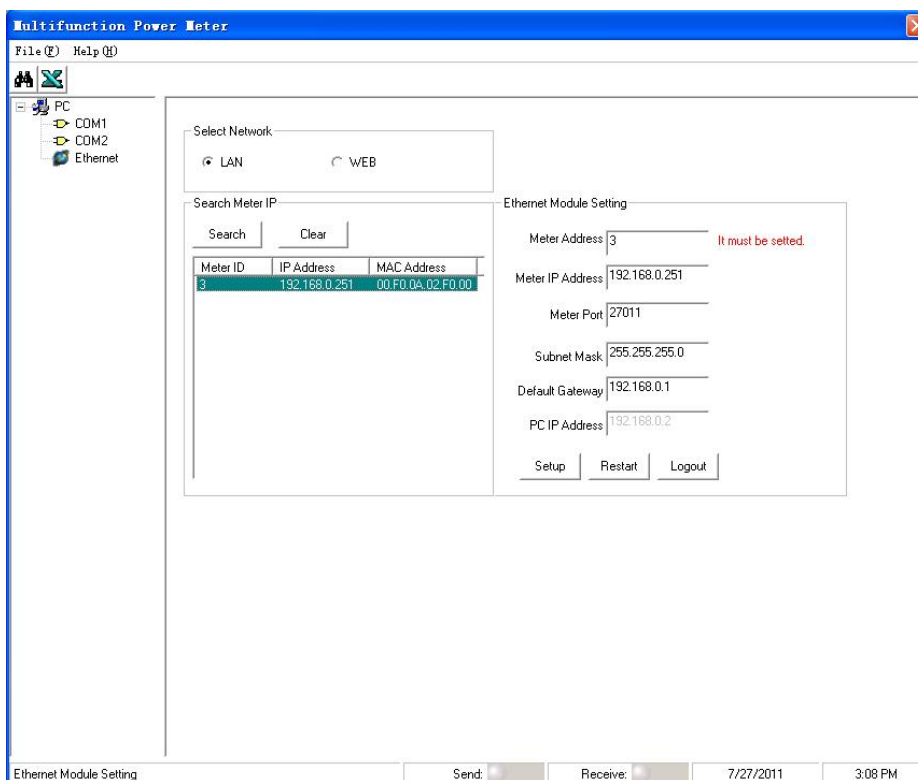

Fig. 191
(2) As shown in Fig. 191, click meter1. Modify meter address, IP address, no. of port, subnet mask and gateway etc., then click set. After the module restarts, the modification is finished.